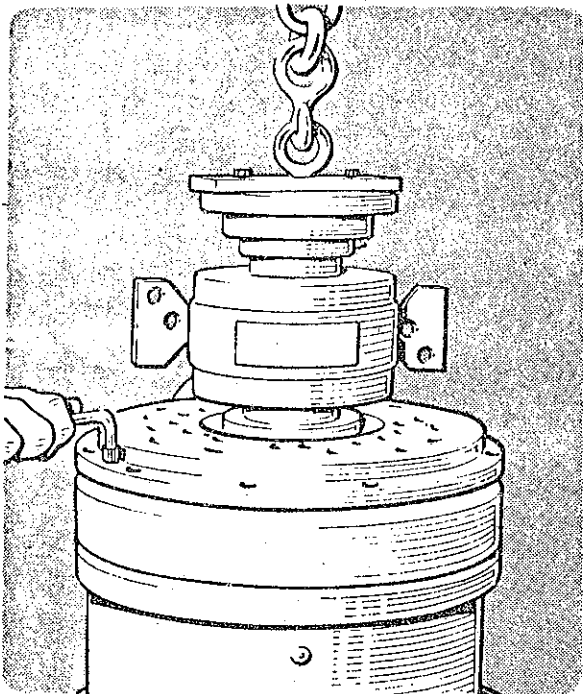

Figure 8. Hub removal
- (k) Remove the bowl lifter. With the gear box removed, attach the conveyor lifter to the adaptor as in (Figure 8). With the pulley end secured from sliding, slowly lift the bowl assembly to a vertical position.